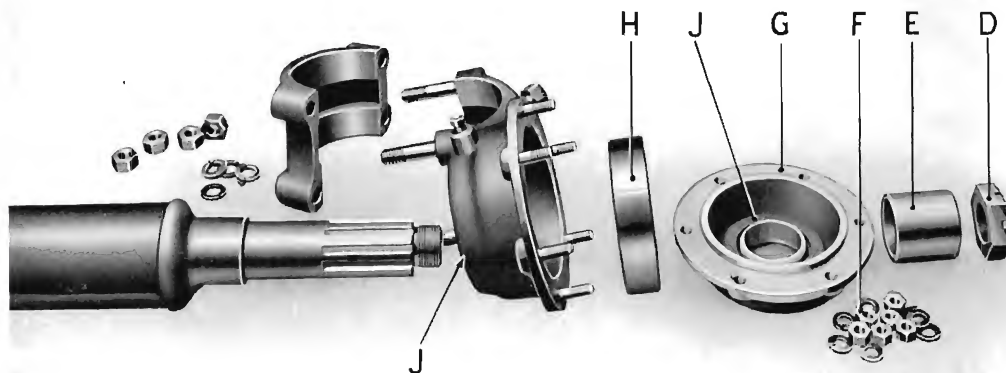

Fig. 2.
Remove the propeller shafts as outlined above, take off the flange retaining nut (D), Fig. 2, and slip the flange off the splines. The inner race is a push fit on the shaft and
Take off the nuts (F), Fig. 2, and remove the cover (G), the ball-race (H) can then be knocked out of the housing in which it is a press fit.